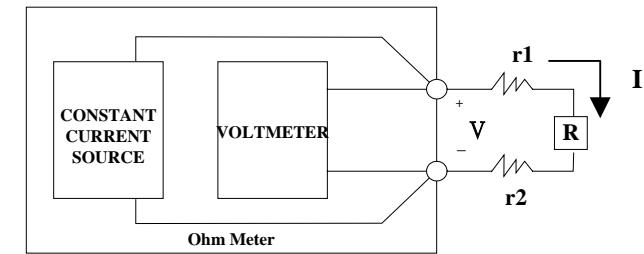

Figure 7-2
- 1) The traditional 2-wire measurement result combines the test lead resistance. Please refer to Figure 7-2 for the measurement result: